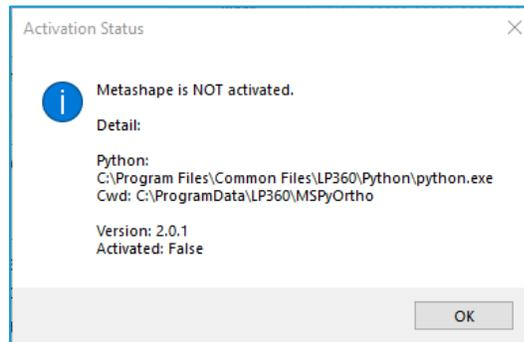

Figure 19 – Agisoft Ortho Mapping Activation Status - NOT Activated
8. You should see an Activation Status message (Figure 19) indicating, “Metashape is NOT Activated”. Select **OK**.
16. You should see an Activation Status message (Figure 19) indicating, "Metashape is NOT Activated". Select **OK**.